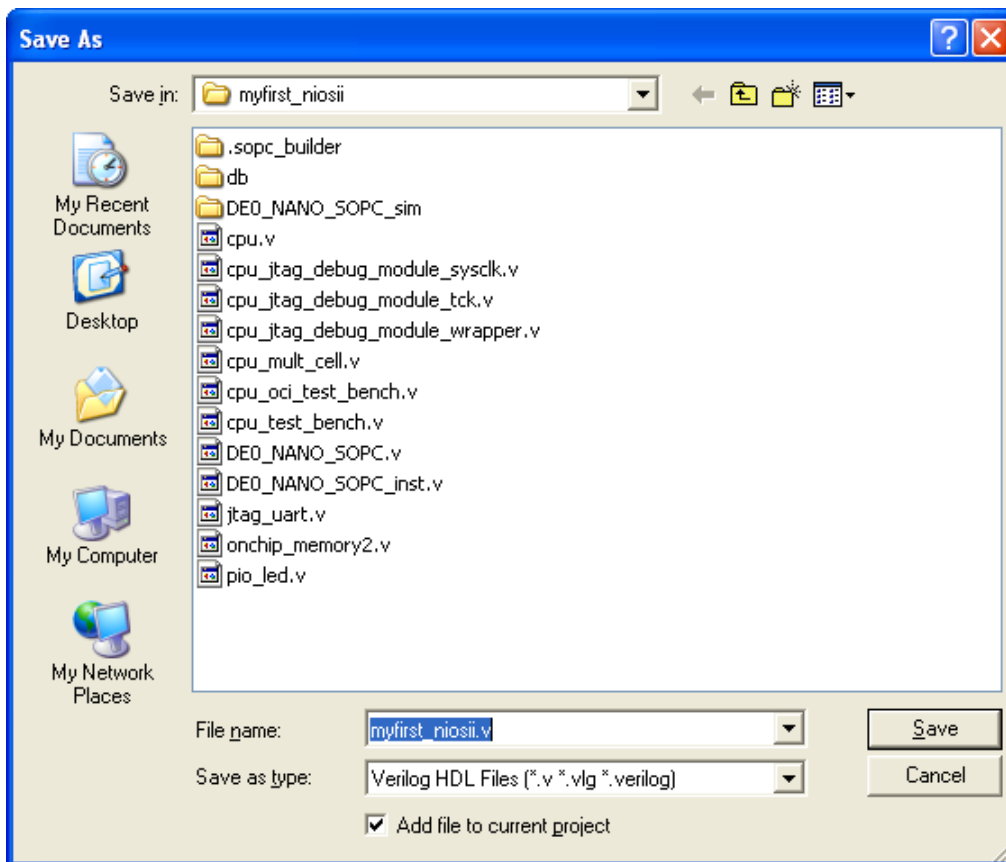

Figure 7-46 Save the Verilog file
35. Save the newly created Verilog file as **myfirst\_niosii.v**, as shown in **Figure 7-46**.